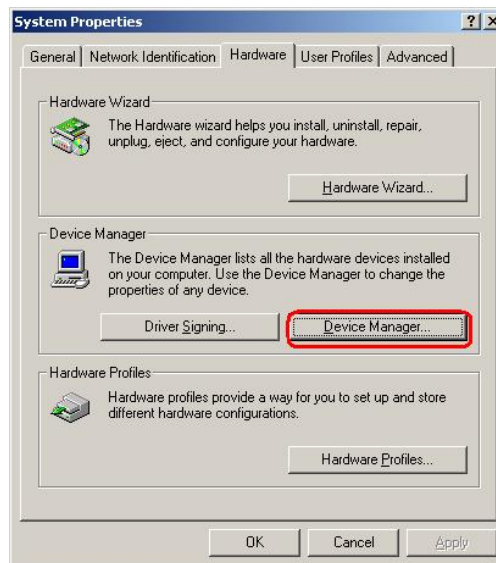

Figure 7-14: Double Click the Device Manager Tab
Step 3: Click the **Hardware Tab**, then double click **Device Manager** (Figure 7-14).